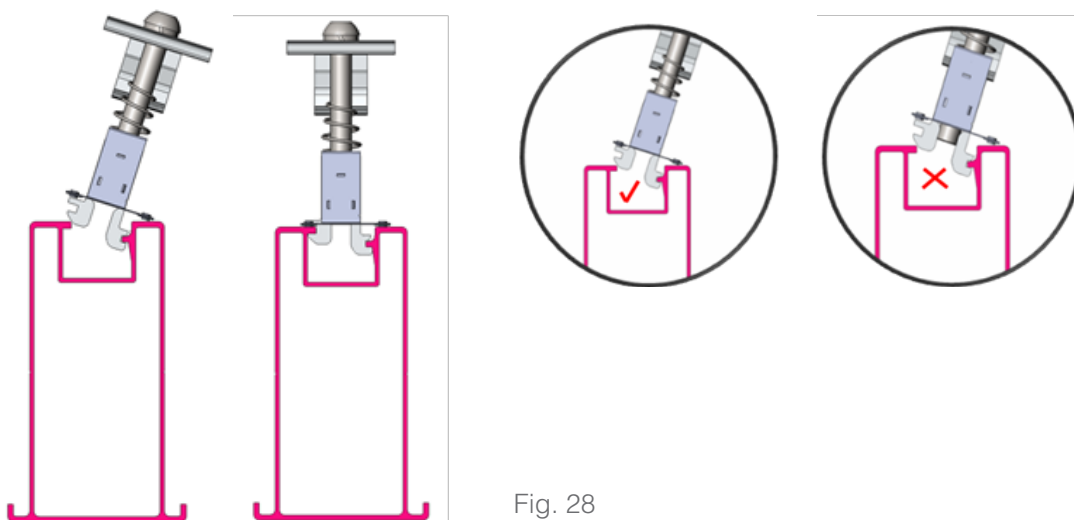

Fig. 28
Step 2 Incline the Universal Clamp to place the channel on its lower part against the lower channel of the T Rail. Then press the Universal Clamp down towards the other side of the T Rail to engage the channel on its upper part against the upper channel of T Rail as shown in Fig. 28.
Note: before installation, make sure there will be enough clearance between the screw and module of Universal Clamp as shown in Fig. 28.